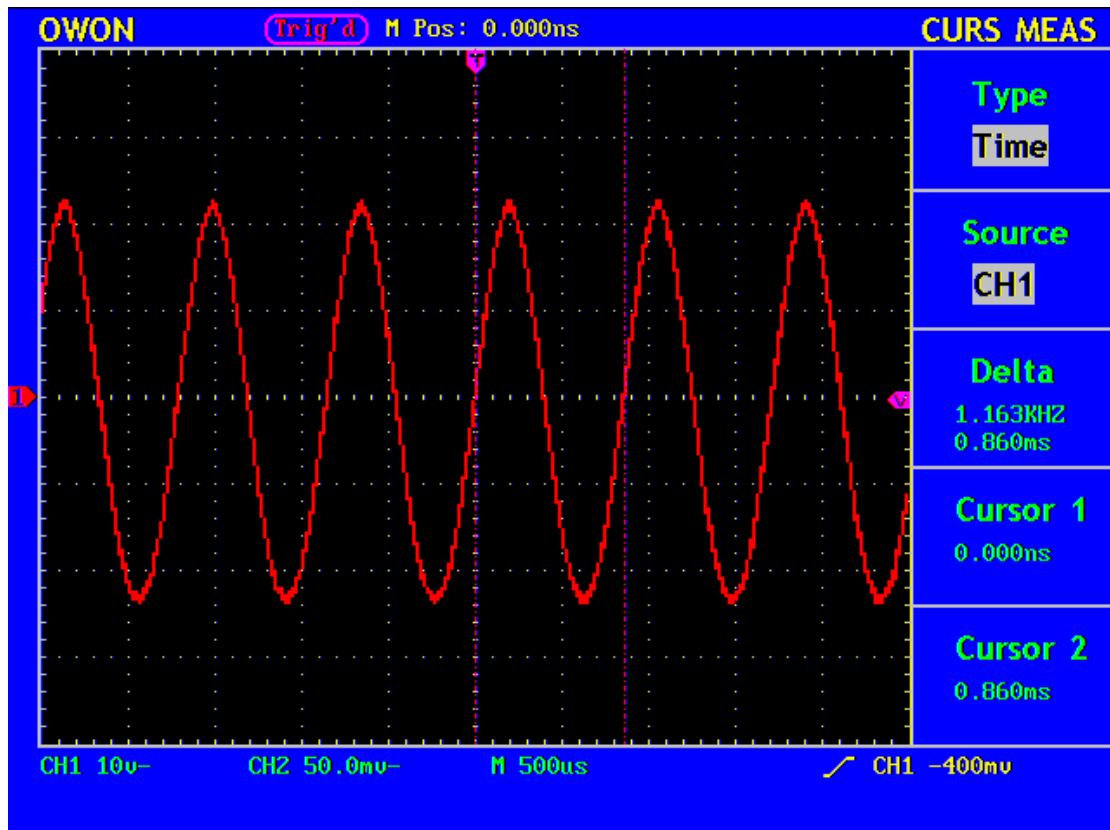

Fig. 54 Wave Form of Cursor Measurement
- Adjust the positions of **CURSOR1** and **CURSOR2** according to the measured wave form, with the cycle and frequency of Cursor1 and Cursor 2 displayed in the increment window. The current position of Cursor1 is displayed in the Cursor1 window and that of Cursor2 is displayed in the Cursor2 window (see Fig. 54).
10. Read the peak-to-peak values of Channel 1 and Channel 2 from the displayed menu (see Fig. 54).